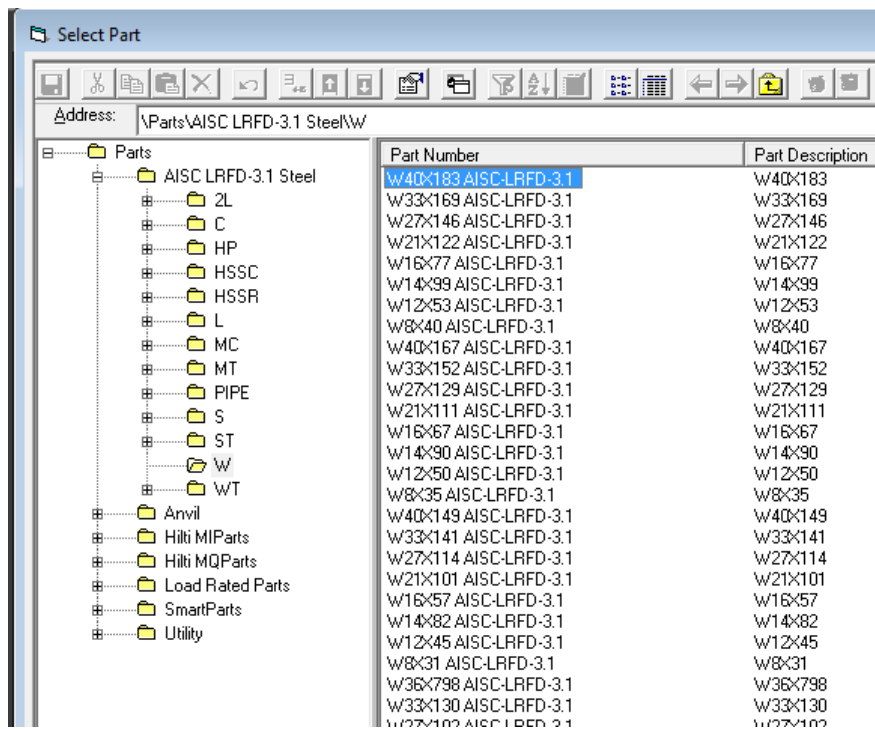

Figure 1: The drop down list of the selected steel part.
- 2- Click on the designed support and place the any part from the W sections under AISC LRFD-3.1 Steel. Let us say W40X183 AISC-LRFD-3.1 as shown in Figure 1.